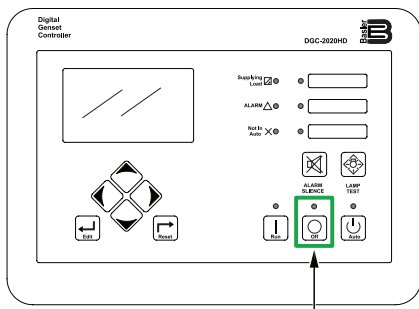

Figure 12. Digital Controller (OFF Button)
3. Press the **OFF button** on the digital controller (Figure 12) to stop the engine. The engine will stop after a 1-minute cool-down process.
Press the **OFF button** on the digital controller (Figure 12). The circuit breaker will automatically turn **OFF** and the engine will stop after a 1-minute cool-down process.
2. After the engine has completely stopped, press the **OFF button** on the digital controller (Figure 12) and place the **Control Power switch** in the **OFF** position (Figure 13).